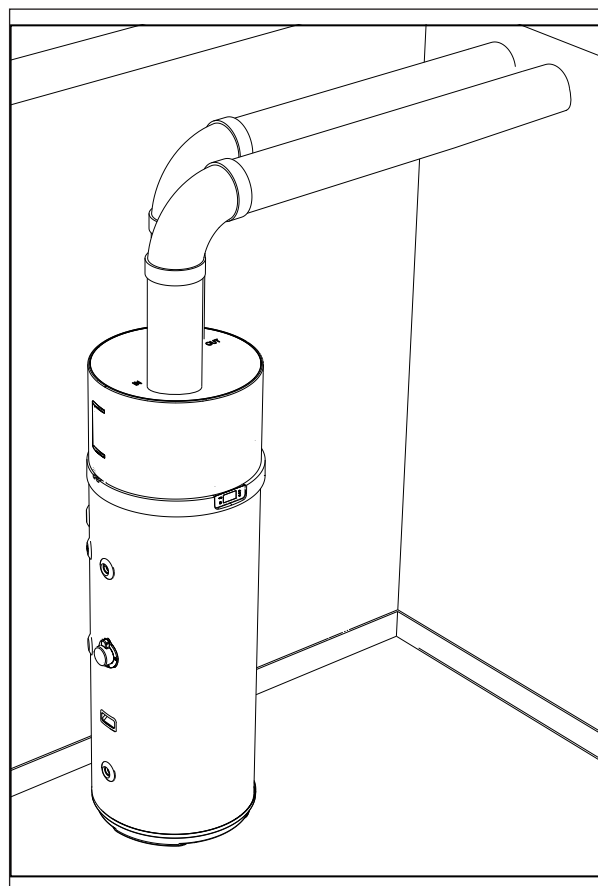

fig. 25
- Ducted IN and OUT (“fig. 25” on page 80 and “fig. 26” on page 81)